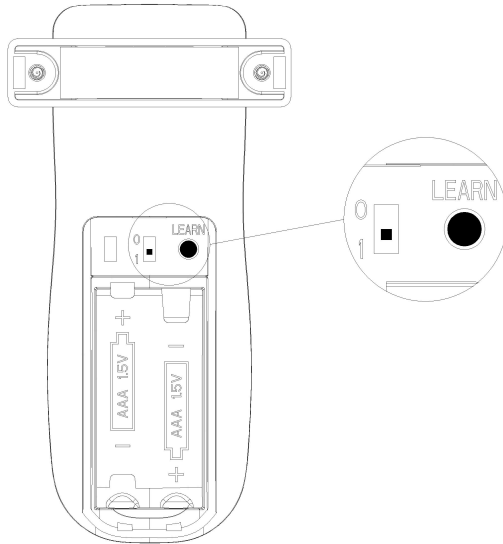

Fig. 2
1. Make sure power to the fan is off. Open the remote battery cover and install 2pcs DC1.5V,AAA batteries. (Fig. 2).
2. Change the dip switch from 0 to 1 (Fig. 2).